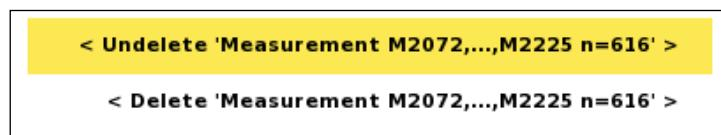

Figure 68 Undelete/Delete data points Option menu
- Highlight “<Undelete ‘Measurements Mxxx,...,Mxxx n=xxx’>” (Mxxxx represents a measurement id) (Figure 68)